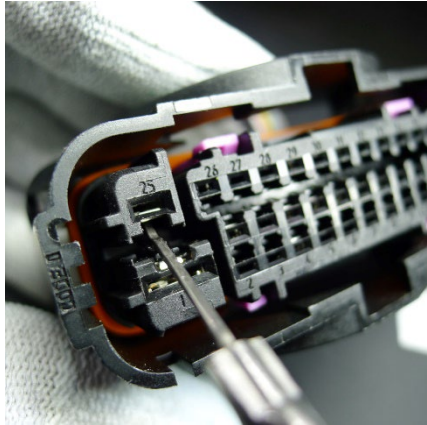
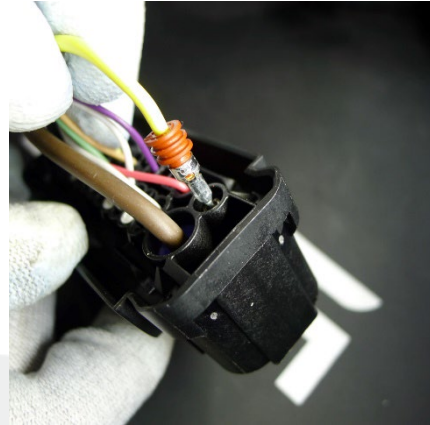

Figure 20
Figure 21
19. Use the tool from the pin drag kit to release the lock for terminal 25 of connector X151 (Figure 20), and at the same time, remove the yellow wire from receptacle 25 (Figure 21).